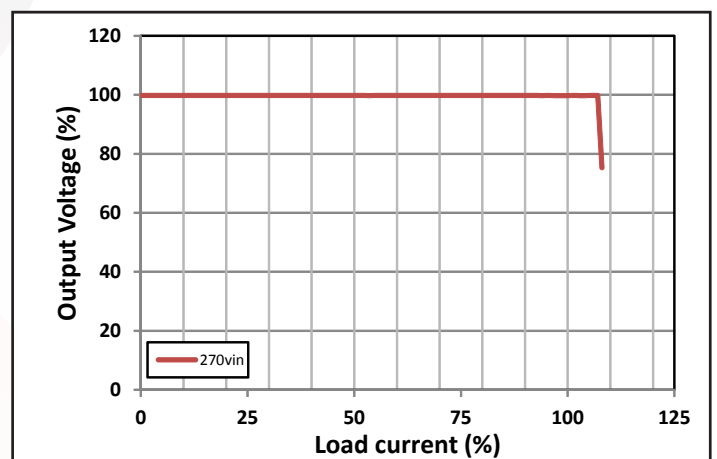

Figure 6: Output voltage vs. load current showing typical current limit curves. See Current limit section in application notes.
**CURRENT LIMIT:** In the event of excess load, the MCOTS converter will quickly reduce its output voltage to keep the load current within safe limits (see Figure 6). If the overload persists for more than 40 ms, the converter will shut off, wait a restart delay, and then automatically attempt to re-start. The timeout is internally implemented with an integrator: counting up whenever current limit is active, and counting down at 1/5th the rate whenever current limit becomes inactive. In this way a series of short-duration overloads will not cause the converter to shut down, while it will shut down in response to sustained overloads.